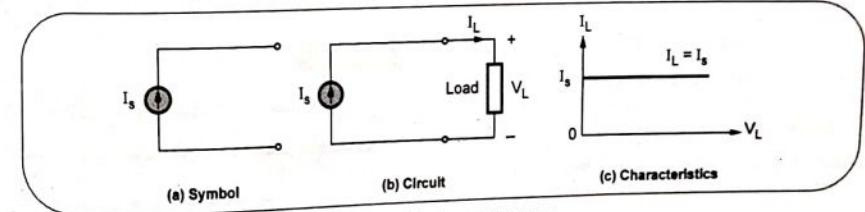

Fig. 1.6.3 Ideal current source
- The symbol for ideal current source is shown in the Fig. 1.6.3 (a). This is connected to the load as shown in Fig. 1.6.3 (b). The Fig. 1.6.3 (c) shows the V-I characteristics of ideal current source.